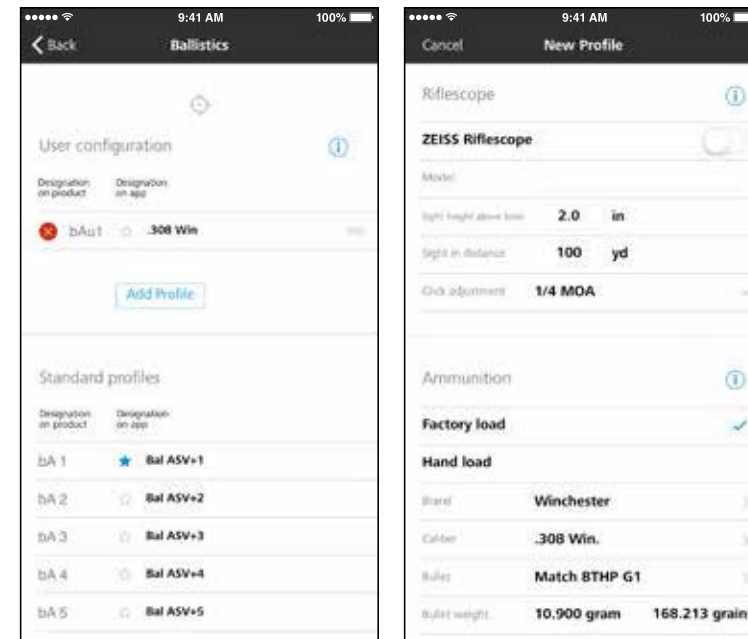

Fig. 17
- Choose the **"Ballistics"** tab. Then, on the User Configuration page, add your custom load to your profile list by selecting the **"Add Profile"** button and choosing the load you previously input into the ZHA. Once selected, ensure the load is highlighted with a blue star as illustrated (Fig. 17).